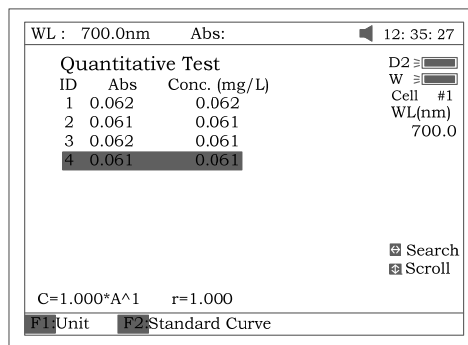

Fig 38
- Pull the sample cuvette into the light path, press the key [START], the results will be displayed on the screen (Fig 38). If there is more than one sample, repeat for the next sample.